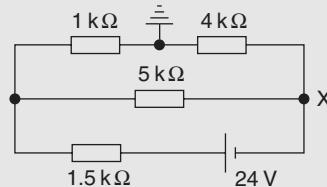

Figure 5.36
**Problem 15.** For the circuit shown in Fig. 5.36, calculate (a) the voltage drop across the  $4\text{ k}\Omega$  resistor, (b) the current through the  $5\text{ k}\Omega$  resistor, (c) the power developed in the  $1.5\text{ k}\Omega$  resistor, (d) the voltage at point X w.r.t. earth, and (e) the absolute voltage at point X.